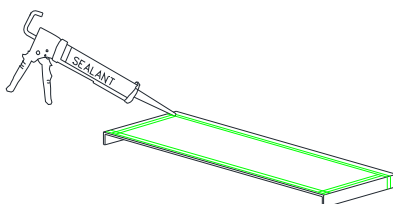

Figure D2:
- With bottom side of sillpan up, apply a 3/8" bead of compatible sealant 1/2" in from interior leg. Sealant bead to run across the bottom as well as up each vertical leg of the sillpan. Also apply sealant beads near the sides and across the front (Figure D2).